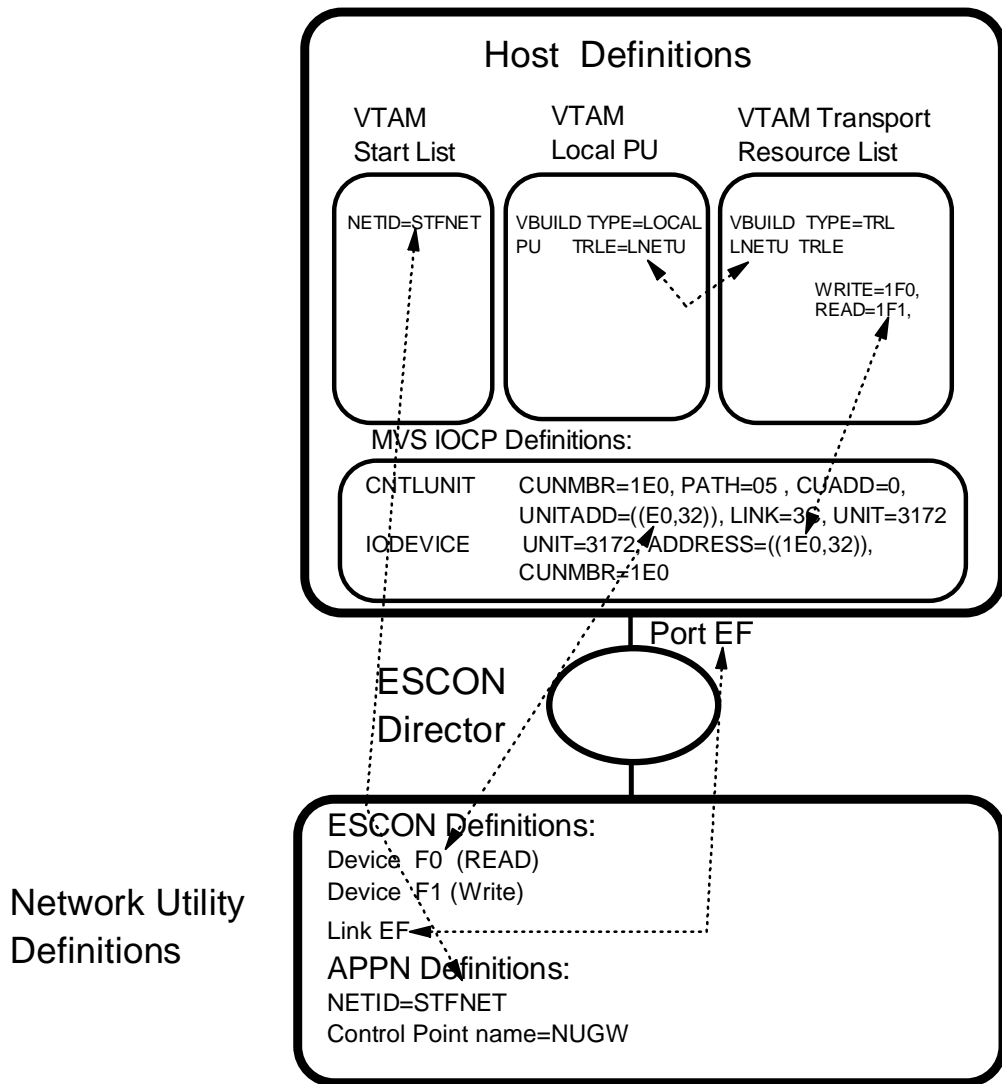

Figure 14-9. Host/Network Utility Parameter Relationships - MPC+
- Like the LSA and LCS definitions, the subchannel parameters must match parameters used in the host definitions when defining the Network Utility to the host channel subsystem. See Table 14-1 on page 14-7 for a description of the subchannel parameters and Figure 14-9 on page 14-14 for a diagram of how these parameters correlate to the host parameters for an MPC+ definition.
1. The device addresses specified in the Network Utility MPC+ interface definition must be within the range specified in the UNITADD parameter in the CNTLUNIT macro from the IOCP. For example, the UNITADD parameter in Figure 14-9 shows that 32 (decimal) device addresses starting at E0 (hex) are being reserved for the Network Utility definition. Device addresses of F0 and F1 have been specified for the Network Utility MPC+ interface. Since F0 and F1 are in the range between E0 and FF hex, this is OK as long as no other device (or interface on this Network Utility) tries to use these same subchannels.
2. The values specified in the VTAM TRL major node definition must be within the range specified in the ADDRESS parameter in the IODEVICE macro from the IOCP. For example, the TRL major node definition in Figure 14-9 specifies 1F0 and 1F1, which are in the range between 1E0 and 1FF that the ADDRESS parameter in the IODEVICE statement specifies.